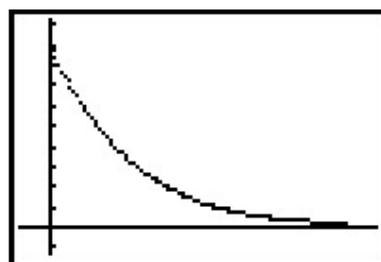

Fig.12.
- Press **[ZOOM]**, choose **9:ZoomStat** and press **[ENTER]** - Fig.12.